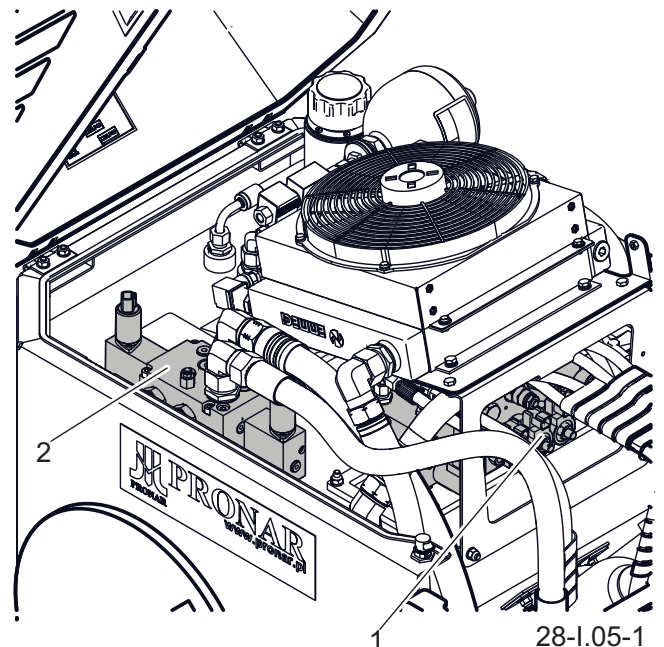

Figure 5.3 Electrohydraulic selective control valves
The electrohydraulic selective control valve (1) (FIGURE 5.3) is used for controlling five
(1) electrohydraulic selective control valve of hydraulic cylinders of arms
(2) electrohydraulic selective control valve of working head
hydraulic cylinders of the support system. The electrohydraulic selective control valve (2) (FIGURE 5.3) starts the working head's hydraulic system. Selective control valves are controlled electrically by means of a control panel with a joystick from inside the tractor cab.